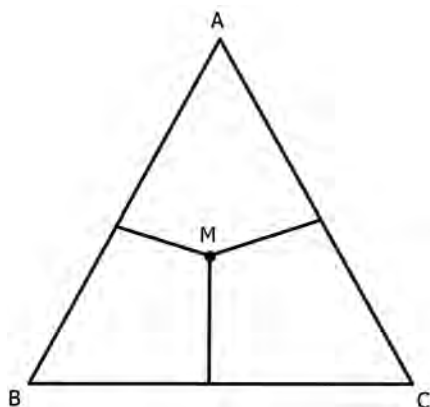

FIGURE 17.42 Equilateral triangular diagram.
- The triangular diagrams can be equilateral (Figure 17.42) or right angled. Representation of equilibria on rectangular coordinates is also common.